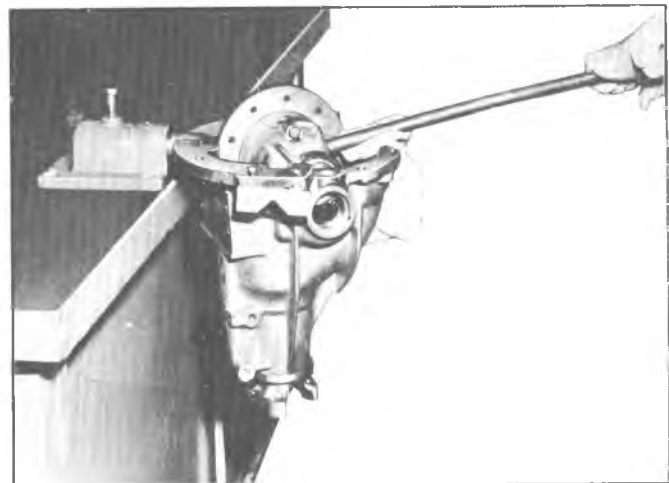

Fig. 2C--Removing Differential Case
4. Pull differential assembly out of carrier, taking care not to damage machined mounting surface on carrier. See figure 2C. Remove differential bearing shims and mark for future reference.